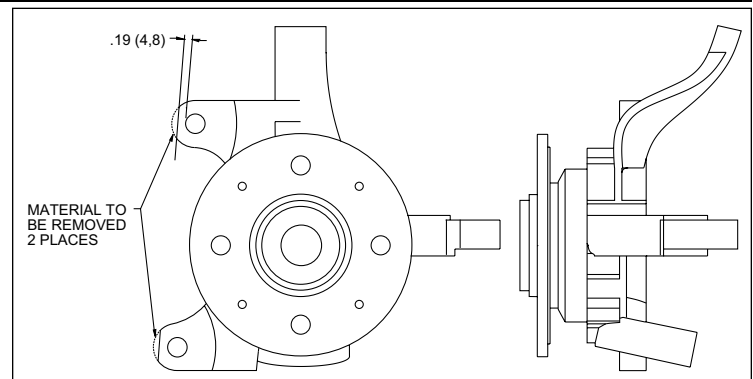

Figure 2. Spindle Modifications
- Before any tear-down or disassembly begins, modifications are required to the stock spindles. This includes removing some material from the stock spindle caliper mounting area that will interfere with the assembly of the Wilwood disc brake kit. It is recommended that these modifications be performed by a qualified machine shop. Please refer to the modification procedure and Figure 2, page 3.
•These modifications should be performed by a qualified machinist. Refer to Figure 2, right. Only one view of the spindle is shown, but the modification needs to be performed on both spindles.